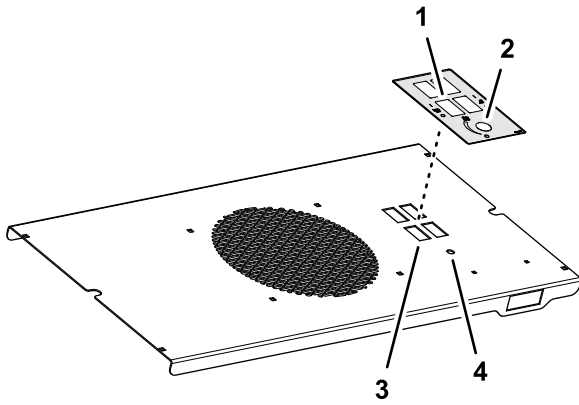

Figure 3
1. Carefully remove the backing from the decal (Figure 3).
2. Align the rectangular openings and hole in the decal with the rectangular openings and hole in the switch panel as shown in Figure 3.